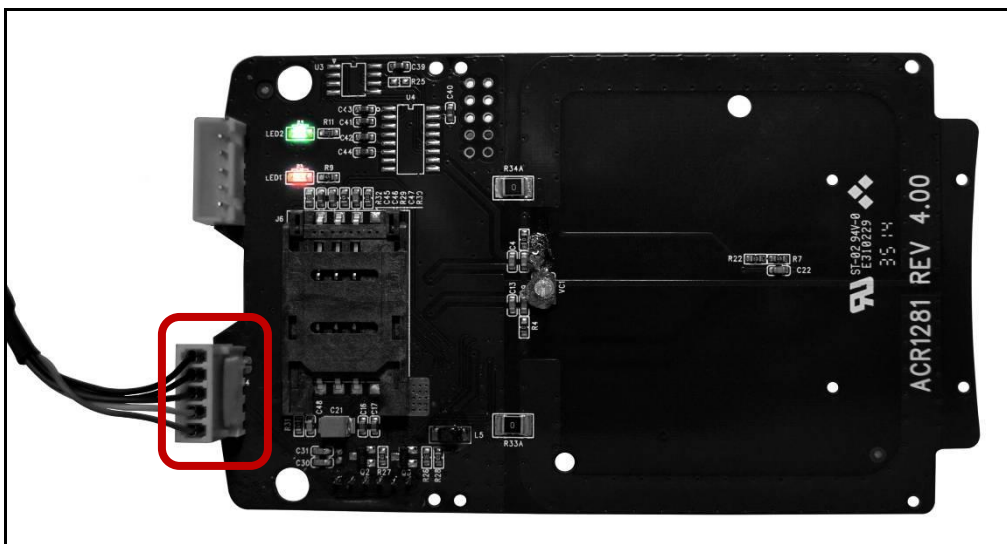

Figure 3: ACM1281U-C via USB Interface
1. Connect socket **J2** via USB cable to another peripheral device (see **Figure 3**).